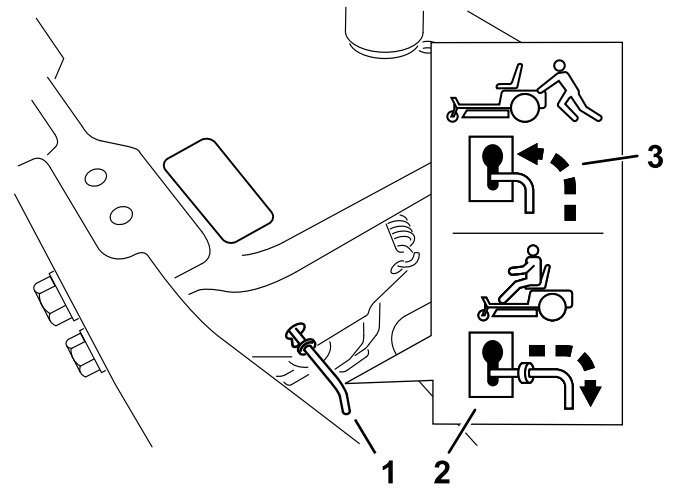

Figure 33
4. Move the bypass levers forward through the key hole and down to lock them in place (Figure 33).
Move the bypass levers rearward through the keyhole and down to lock them in place as shown in Figure 33.